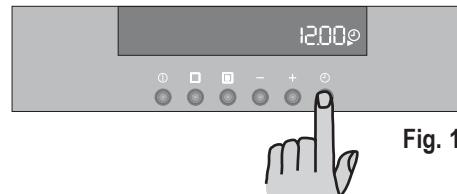

Fig. 1
1) press button  and, while the symbol  is flashing (Fig. 1), set the correct time of day by pressing buttons “